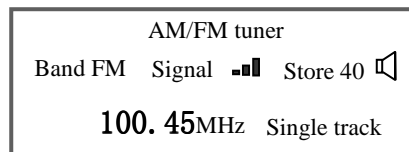

Fig. 4 Operation Interface of AM/FM Tuner
- ① Press the " ▲ " or " ▼ " to select the previous or the next track.
- ② Press the " ◀ " or " ▶ " to move the selection cursor to select operational options among "Cyclic Mode", "Catalog Selection" and "Track Selection", press the "OK" key after selecting one, and adjust the operation with " ▲ " or " ▼ " key. Press the "OK" key after the adjustment is completed.
- ③ Press the "Play/Pause" key to play an MP3 track or make a pause.
- ④ Press the "Main Interface" key. Or press any "Zone" key to return to the main interface.
4. Press the "Radio" key in any menu operation interface to access the "AM/FM Tuner" operation interface as shown in Fig. 4.